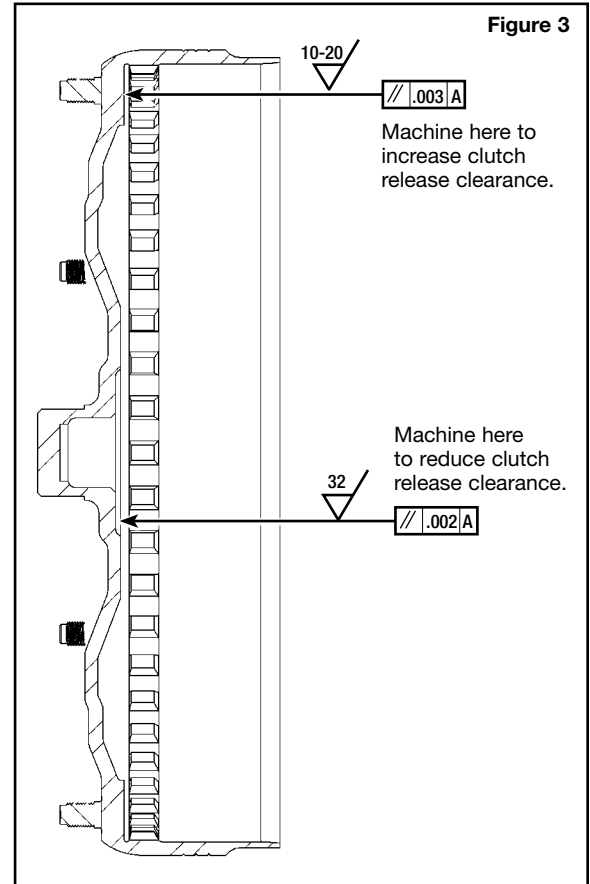

Figure 3
- If there is too much clutch release clearance, machine thrust surface of the front cover to bring clearance into specification (**Figure 3**). Maintain a RA 32 surface finish and keep the thrust surface parallel to the mounting pads within .002".
If increasing clearance is necessary, machine lockup surface of the front cover by the amount necessary (**Figure 3**). Make sure to keep the surface finish better than RA 20 and parallel to the mounting pads within .003".